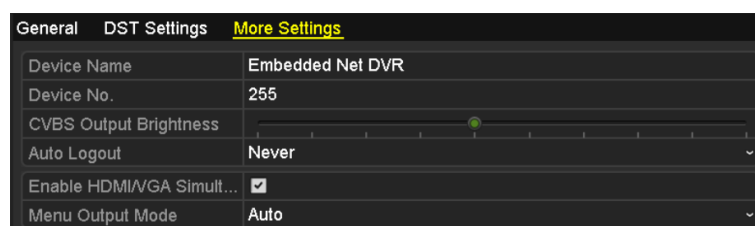

Figure 13. 4 More Settings Interface
2. Click the **More Settings** tab to enter the More Settings interface, as shown in Figure 13. 4.